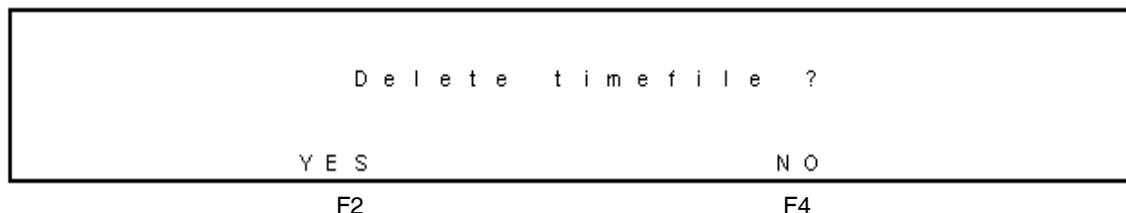

Figure 3-28 Delete Timefile Screen
- a. Select **F3 DEL**. The Delete Timefile screen appears (Figure 3-28).